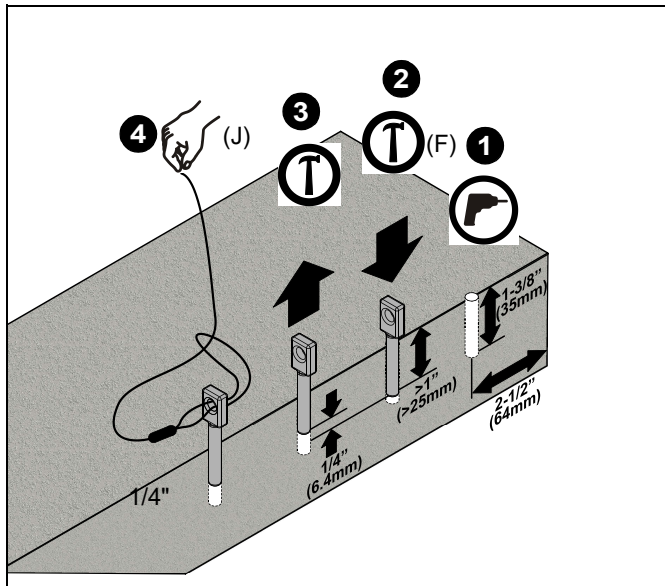

Figure 3
1. Drill 1/4" diameter x 1-1/2" deep hole at each marked cable anchor support location (See Figure 3). Use a plumb drop tool to make sure holes will be directly aligned with holes on ceiling. Ensure hole is at least 2-1/2" from nearest concrete edge. Remove debris from hole.
2. Tap anchor (F) into each hole until the anchor head is seated in the hole. (See Figure 3)
3. Using claw portion of hammer, set each anchor (F) by pulling it out of hole approximately 1/4" (6.4mm). (See Figure 3)
4. Insert portion of manufactured *loop* on cable (J) through hole in anchor (F). Insert end of cable (J) through loop. (See Figure 3)